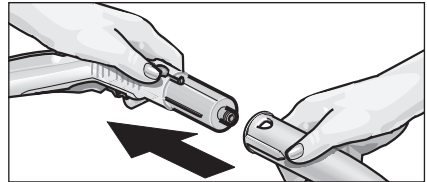

Figure 2: Attaching accessory to the steam gun
- Connect the desired accessory part (D1, E1, F1) with the steam gun (C1). Put the tubular end of the accessory part on the steam gun (C1). Then, push the accessory part onto the steam gun until the unlocking button (C3) of the steam gun locks into place (see Figure 2).